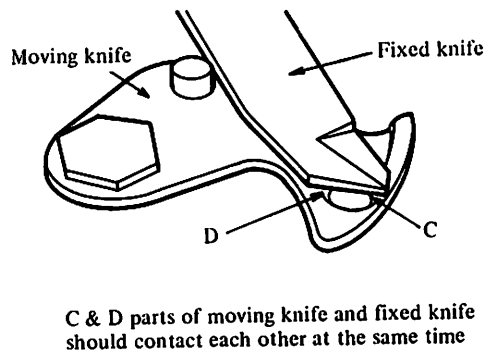
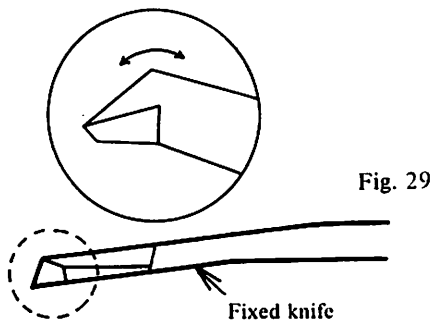

Fig. 28
Fig. 29
* To improve the contacting of the moving and fixed knife, change the angle of the arrow mark of Fig.29. When the D side of Fig.28 does not cut well, shorten the angle and when the C side does not cut well, make the angle larger.